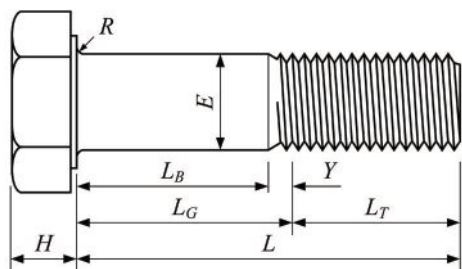

Fig. 2. Dimensions of a heavy-hex bolt, per ASME.
**Problem 1: Manufacturing Bolts.** Bolt manufacturers, as required by standards such as ASTM F3125/F3125M-19e2 and F3148-17a, must adhere to an ASME dimensional standard, namely ASME B18.2.6-19. This ASME standard defines *control dimensions* and *reference dimensions*. The former are those dimensions used during manufacturing to adhere to the standard; the latter are those dimensions provided for information only or for the purpose of calculating a control dimension. This distinction is important but is also one of the sources of confusion. The exact details of the ASME dimensional specification are covered in depth in two *Engineering Journal* papers from earlier this year (see the sidebar) but can be broken down into the following, with reference to the dimensions shown in Figure 2: